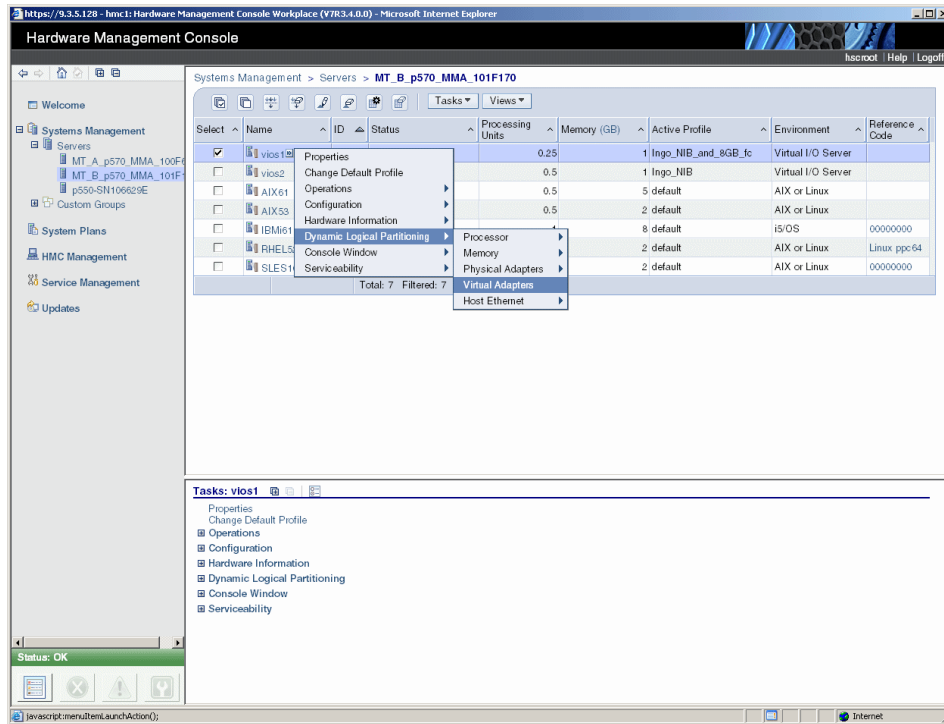

Figure 6-27 Remove virtual adapter operation
- On the HMC select the partition to remove the adapter from and choose **Dynamic Logical Partitioning** → **Virtual Adapters** (Figure 6-27).